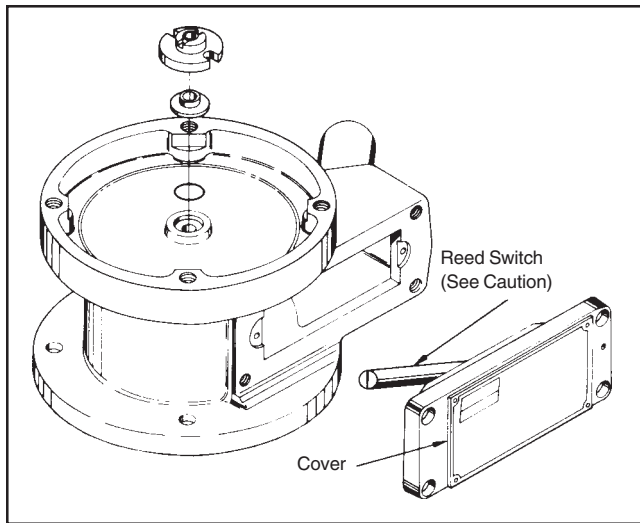

Figure 4
**Extreme caution must be used when removing the cover of the PEXP to prevent damage to the reed switch that is located inside the cover plate. Follow the procedure described below while referring to Figure 4.**